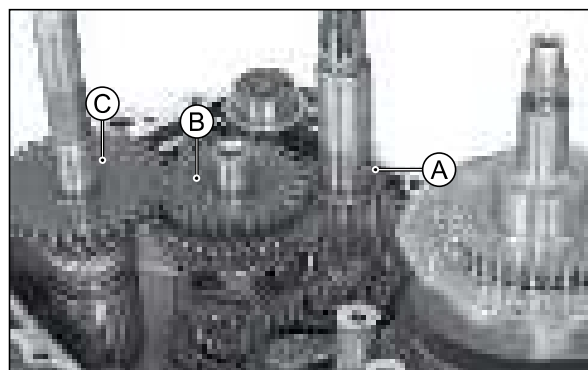

Fig. 3.147
- Take out the thrust washer (A) from the drive shaft assembly. (Fig. 3.147)
- Take out the bearing kick starter driven gear (B) along with thrust washer and shim from the counter (clutch) shaft assembly. (Fig. 3.147)
- Take out shim (16x30.5x0.5) (C) from the shaft kick starter. (Fig. 3.147)